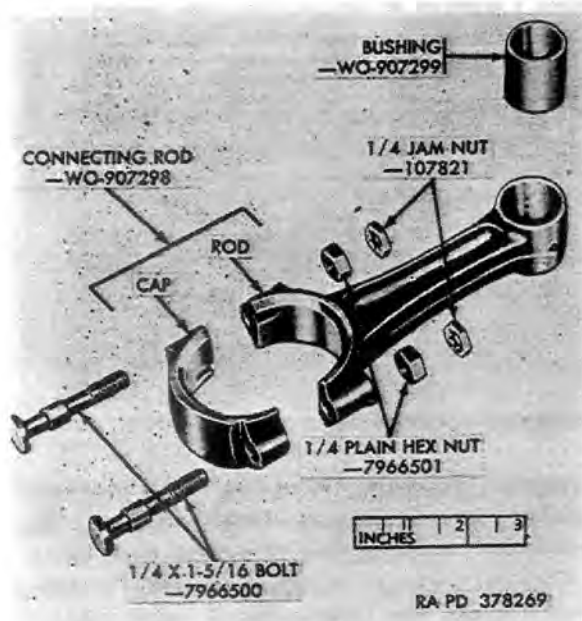
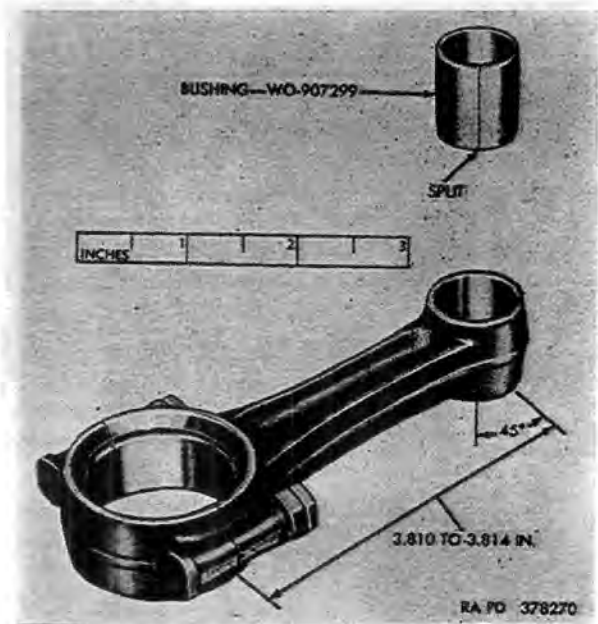

Figure 42. Connecting rod—Exploded view.
Figure 43. Installation position of piston pin bushing in connecting rod.
b. *Piston Pin Bushings* (fig. 42). Check piston pin bushing to repair and rebuild standards (par. 132). Check bushing for scoring. Clean carbon deposits with crocus cloth. Replace defective bushings. Position bushing with split 45° from center line of bore (fig. 43), press bushing into connecting rod, and diamond bore to limits specified in repair and rebuild standards (par. 132).
c. *Connecting Rod Bolts* (fig. 42). Examine bolts for evidence of galling on pilot diameter near center of bolt, stretching, cracks, or scratches on any por-